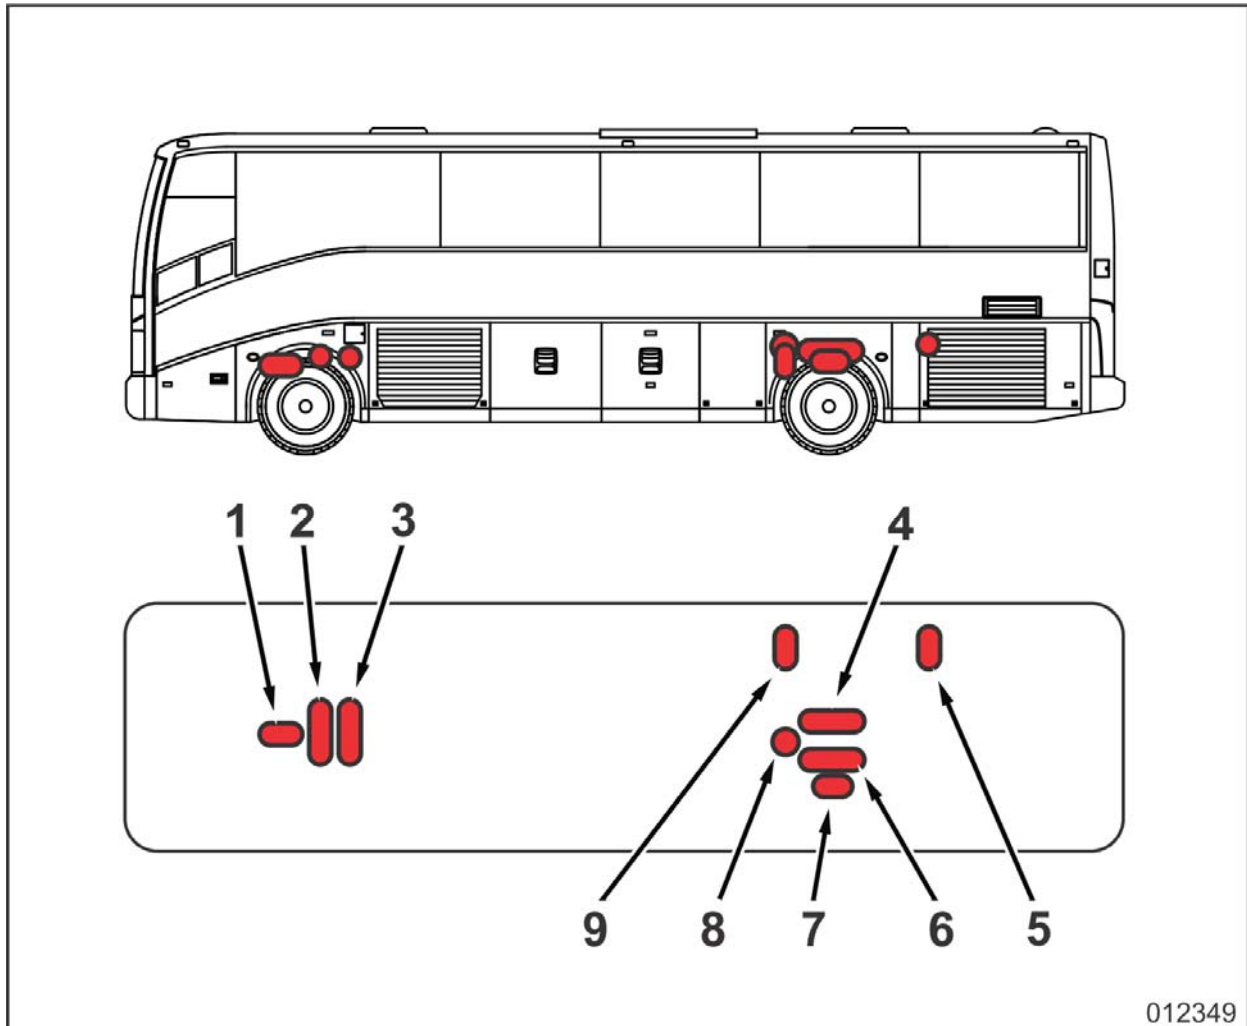

Figure 9: Location of compressed-air tank on CX35
3.2	<p> WARNING! Use appropriate hearing protection while draining the air tanks.</p> <p>Completely drain the entire air system by using the drain cocks on the air tanks. Refer to figure 9 at the end of this service bulletin for air tanks location.</p> <div style="display: flex; justify-content: space-around;"> <div data-bbox="363 633 895 1021">  <p>001826</p> <p>Figure 5a: Compressed-air tank drain cock, previous model</p> <p>1. Closed 2. Open</p> </div> <div data-bbox="919 633 1450 1021">  <p>015353</p> <p>Figure 5b: Compressed-air tank drain cock, current model</p> <p>Left: closed Right: open</p> </div> </div>